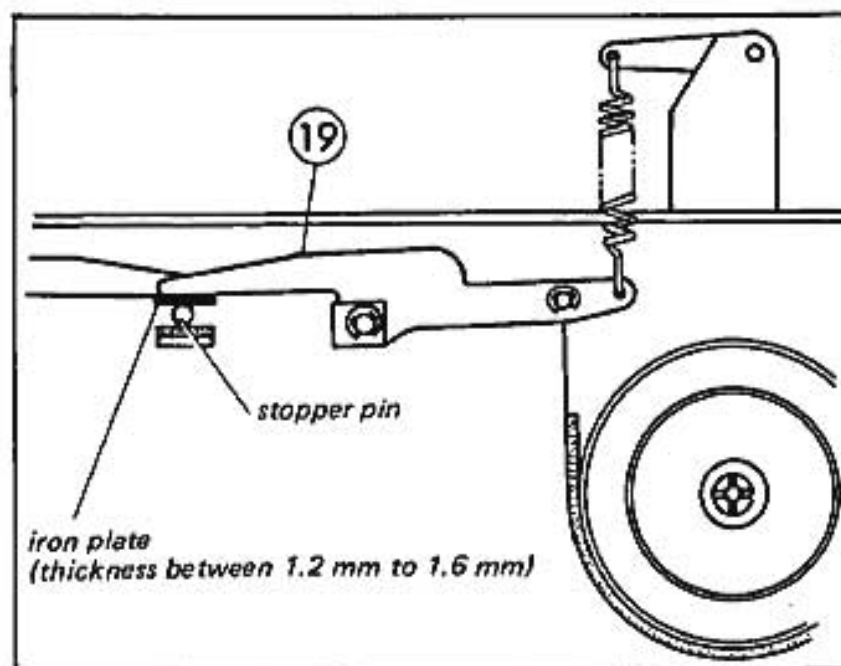

Fig. 10-3 Location of an iron plate
- 1) Insert an iron plate of applicable size (with thickness between 1.2 mm to 1.6 mm) between the brake arm ⑮ and the stopper pin as in Fig. 10-3.